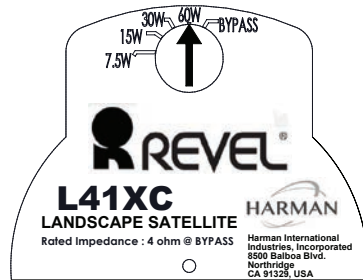

Figure 23
4. Use a flathead screwdriver to change the transformer tap to the desired power level as shown in Figure 23.